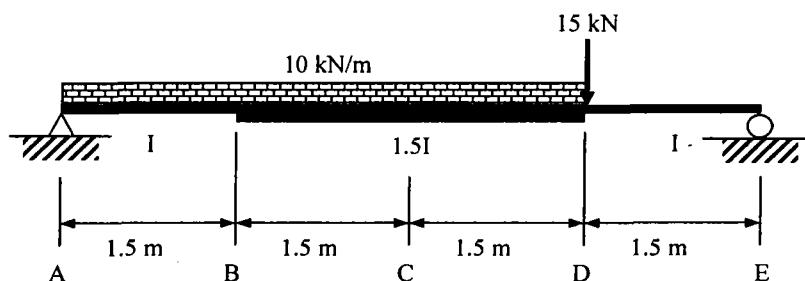

Figure 1 / Rajah 1
- (b) Figure 1 shows a simply supported beam carrying uniformly distributed load of 10kN/m from A to D and a concentrated load of 15kN at D. The moment of inertia of the center portion BD of the beam is $1.5I$, whereas the end segments AB and DE have a moment of inertia I . Determine the slope and displacement at point B using **method of virtual work**. Given $I = 90 \times 10^6 \text{ mm}^4$ and $E = 200\text{GPa}$.